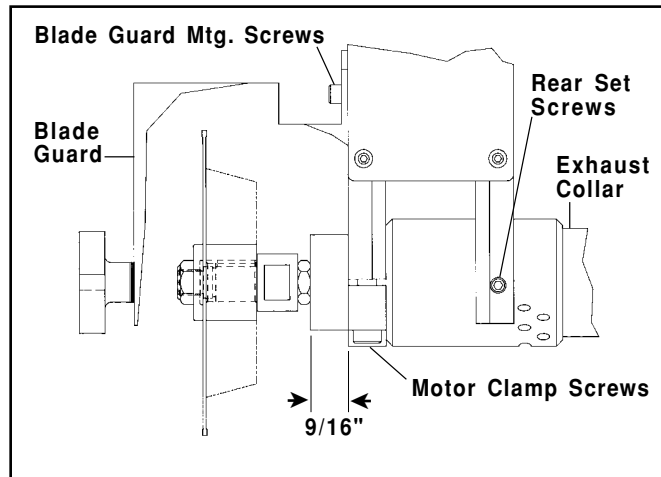

FIG.1
B. Installing Bevel Cutters (Fig. 1) Optional
1. Check motor tightness by tightening motor clamp screws (2) on the underside of unit. (Fig. 1)
2. Rotate exhaust collar until ports are in downward position. Position rear set screws (2) to lightly touch the exhaust collar. Tightening the rear set screws will damage the motor and warp the motor bracket.
3. Remove blade guard, by loosening 2 screws at top of guard (Fig.1)